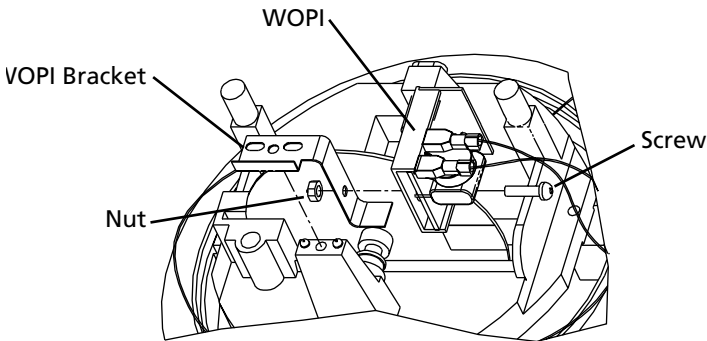

Figure 37. Attaching WOPI
7. Attach the WOPI to the WOPI bracket using the 6-32 x 3/8 inch screw and nut provided in the installation kit. See Figure 37.
8. Position the WOPI bracket against the meter base so that the mounting bracket hole is aligned with the face plate screw hole. Ensure none of the wires are touching the meter disk or shaft. See Figure 37.